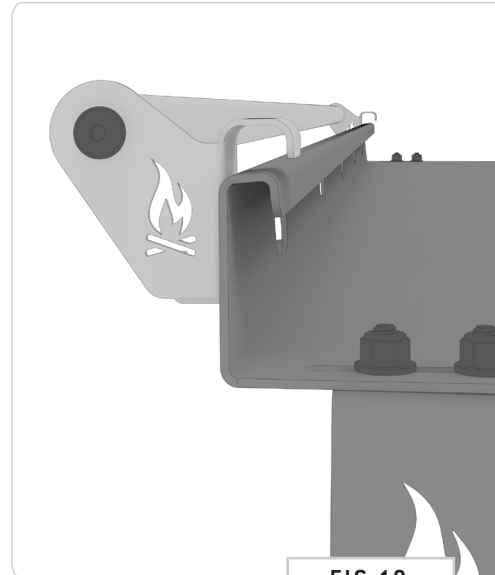

FIG 19
**6.1 Position Curtain Rod:** Hang the **Curtain Rod** on the **Headliner Shelf** (FIG 19). Position the **Curtain Rod** so that it is centered.